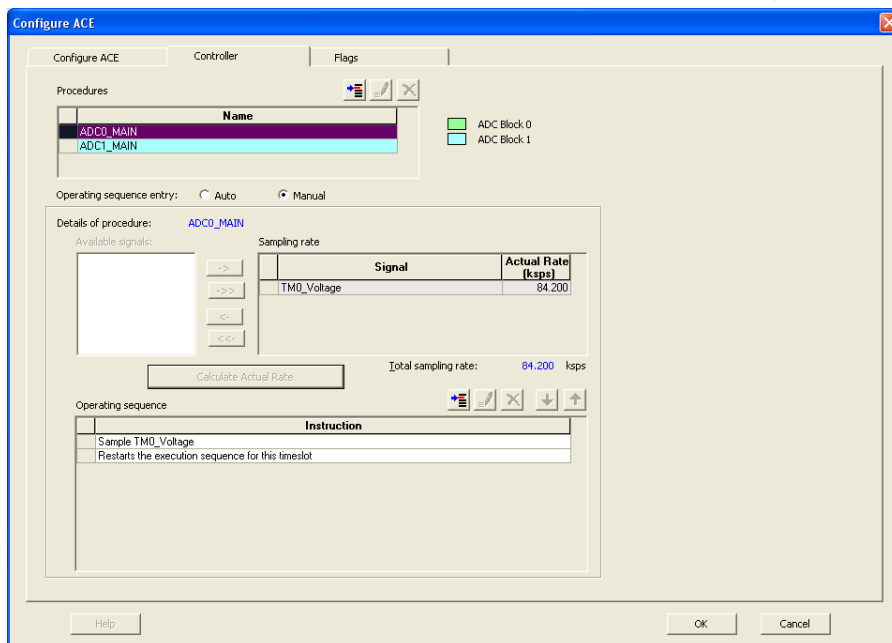

Figure 13 MSS ACE Configuration: Final Controller Tab
11. Click **Calculate Actual Rate**. The final **Controller** tab window is displayed as shown in Figure 13.